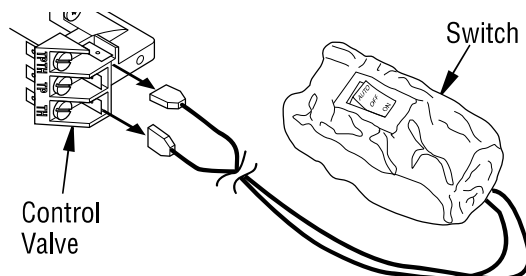

Figure 19- Disconnecting Switch from Control Valve (Remote Ready Models Only)
6. If installed, disconnect AUTO/OFF/ON switch wire from control valve at TPTH and TH locations (see **Figure 19**).
7. Connect wires from hardware pack (with remote receiver bracket) to control valve at the TPTH and TH locations as shown in **Figure 19**. Connect other ends of these wires to remote receiver wires.